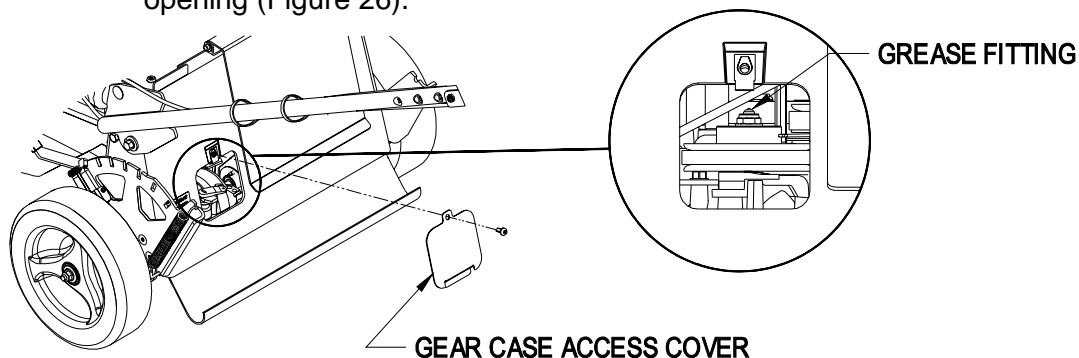

FIGURE 26
- c) Install a grease gun onto the fitting through the gear case access cover opening (Figure 26).